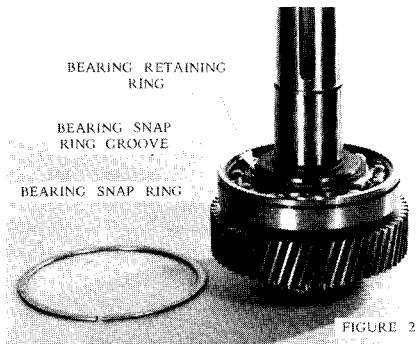

FIGURE 22
22. Position assembly as shown in Figure 22. Remove bearing snap ring from O.D. of ball bearing. Heat bearing to 250° F. using procedure given in Step 21. Install bearing with snap ring groove up, towards coupling end of drive shaft. Install bearing retaining ring.